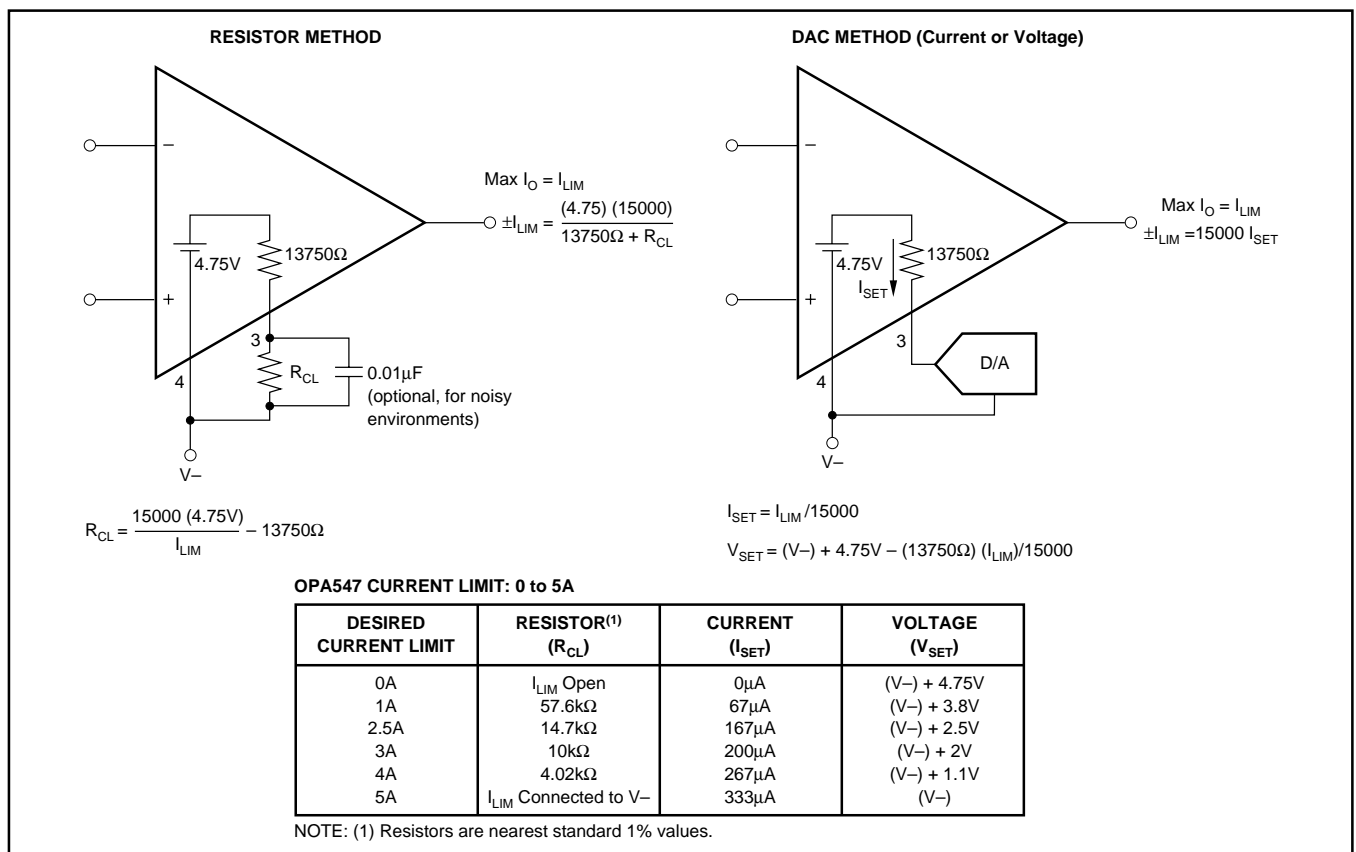

FIGURE 3. Adjustable Current Limit.
See Figure 3 for a simplified schematic of the internal circuitry used to set the current limit. Leaving the I_{LIM} pin open programs the output current to zero, while connecting I_{LIM} directly to V– programs the maximum output current limit, typically 5A.
NOTES: (1) Works well for $G < 10$. Input offset causes output current to flow between amplifiers with $G > 10$. Gains (resistor ratios) of the two amplifiers should be carefully matched to ensure equal current sharing. (2) As configured (I_{LIM} connected to V_-) output current limit is set to 10A (peak). Each amplifier is limited to 5A (peak). Other current limit values may be obtained, see Figure 3, "Adjustable Current Limit".